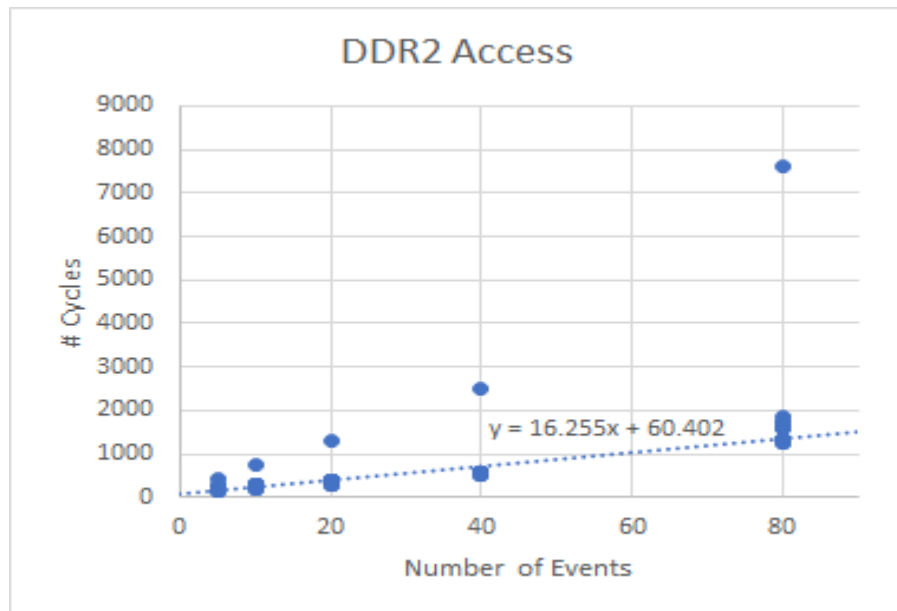

Figure 1. DDR2 linear regression with
5. We had a few outliers in our data. This can be easily viewed in figure 1, where some data points are magnitudes larger than the majority of the data points.